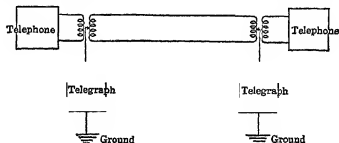

Fig. 167. Telephone circuit combined with a telegraph circuit.
In the system pictured here a galvanized iron wire may be used for one side of the line, the "return" side of the circuit being through the ground. A large part of the telegraph traffic is now carried over lines which carry telephone messages as well. (See Fig. 167.)
**90. Combination Telephone and Telegraph Systems.** A simplified circuit showing how a telegraph message can be sent over a telephone line is shown in Fig. 167. When a telegraph message is sent it must not disturb the telephone circuits. This requirement is effected by using both telephone wires for one side of the telegraph circuit and the